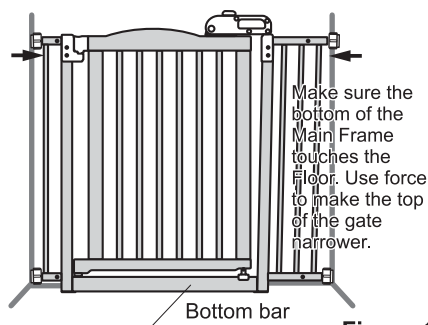

Figure 1
- The bottom of the product should contact the floor for safety as shown in Figure 1.
※The top width of the frame may be wider than the wall since the product is designed to be installed using a tension-spring effect. If necessary, use force to make the top of the gate narrower to fit between the wall as shown in Figure 1.